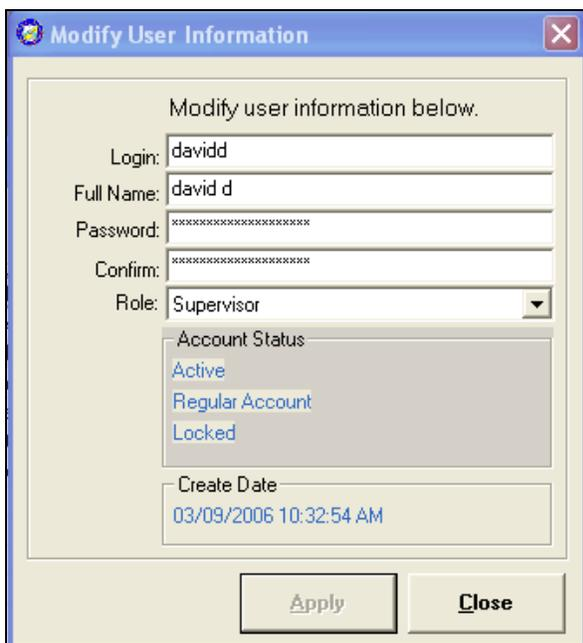

Figure 3.13
3. A ‘Modify User Information’ screen will appear (Figure 3.13).